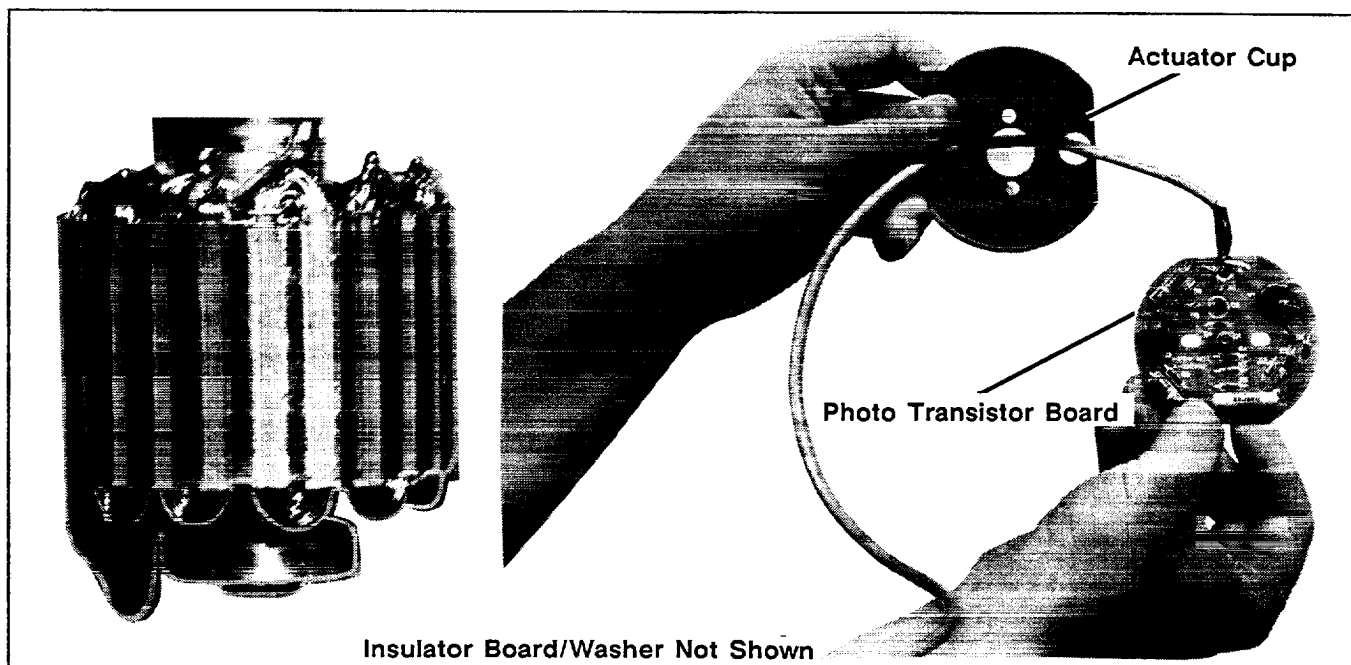

Figure 5. Installing Photo Transistor Board
13. While the rotor is suspended, install the new photo transistor board. Place photo transistor board lead through actuator cup as shown in Figure 5. Route the photo transistor board lead through hole in rotor shaft and then through exciter laminations to exit near the SCR Assembly.